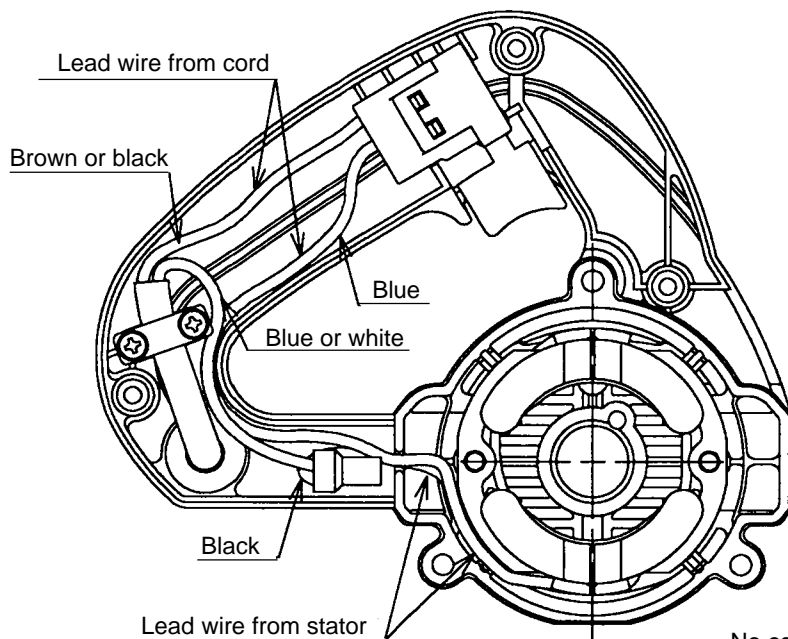

Fig. 11
(5) Wiring procedure (See Figs. 11 and 12.)
Wiring should be carried out by referring to Figures 11 and 12. During installation, be careful not to pinch the lead wires between the housing and the handle cover.